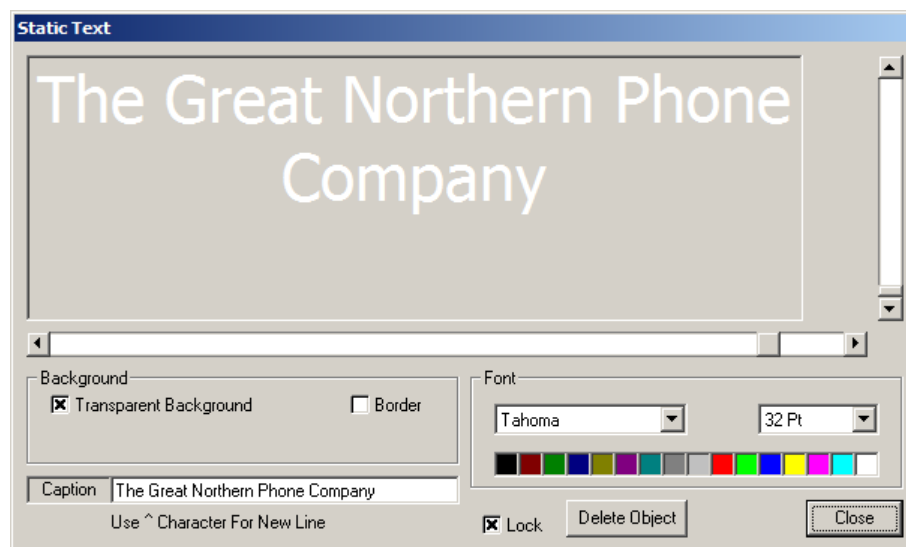

Figure 2.13 Static Text
3. Right click on the text box to begin defining it as shown in figure 2.13.